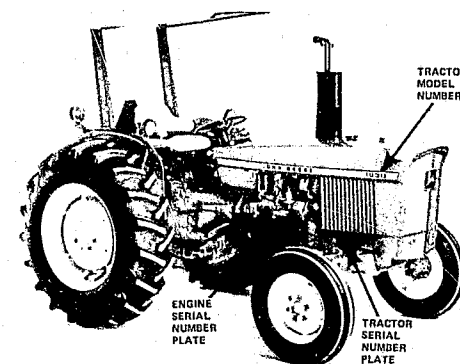

Figure 1
- The model number appears on the sides of the tractor. (See Figure 1)